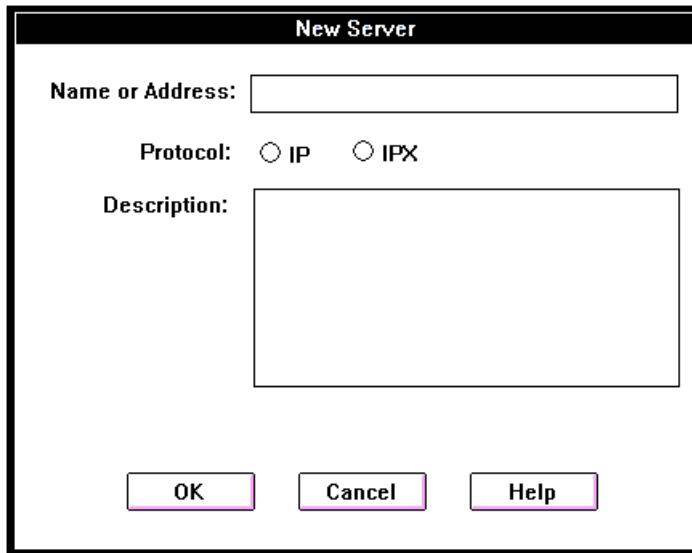

Figure 7-1. New Server Dialog Box
- 2 Click the  button. The New Server dialog box appears, as shown in Figure 7-1.